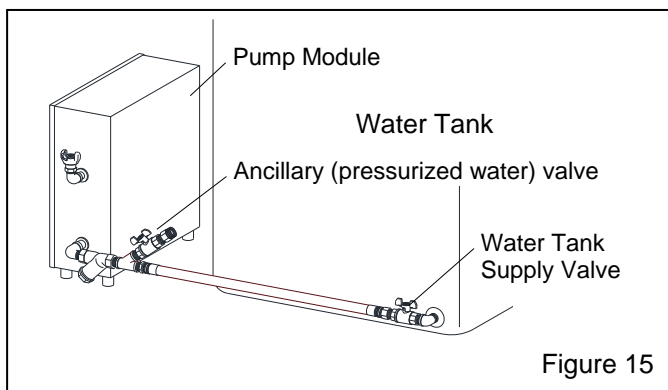

Figure 15
4.1.2.6 Open the ancillary water valve, shown in Figure 15, to purge air from the water line; close the valve as soon as water comes out. Note: All air must be purged from the water supply line for the pump to self-prime.